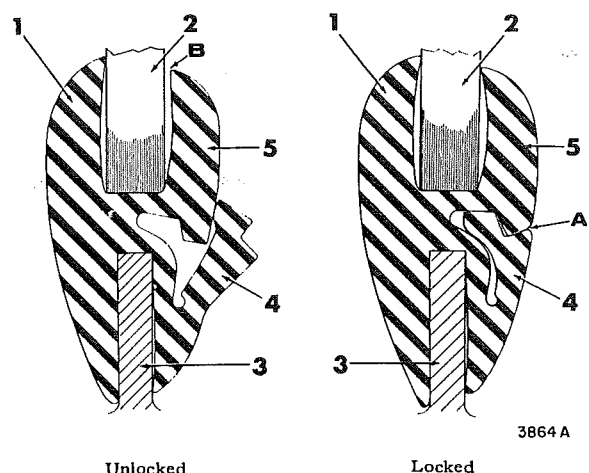

FIG. 180—WINDSHIELD WEATHERSTRIP
- a. Working on the outside of the cab, insert a screwdriver or thin wedge in the separation or slit in the weatherstrip (Point A, Fig. 180) and pull the lower lip of the weatherstrip over the upper